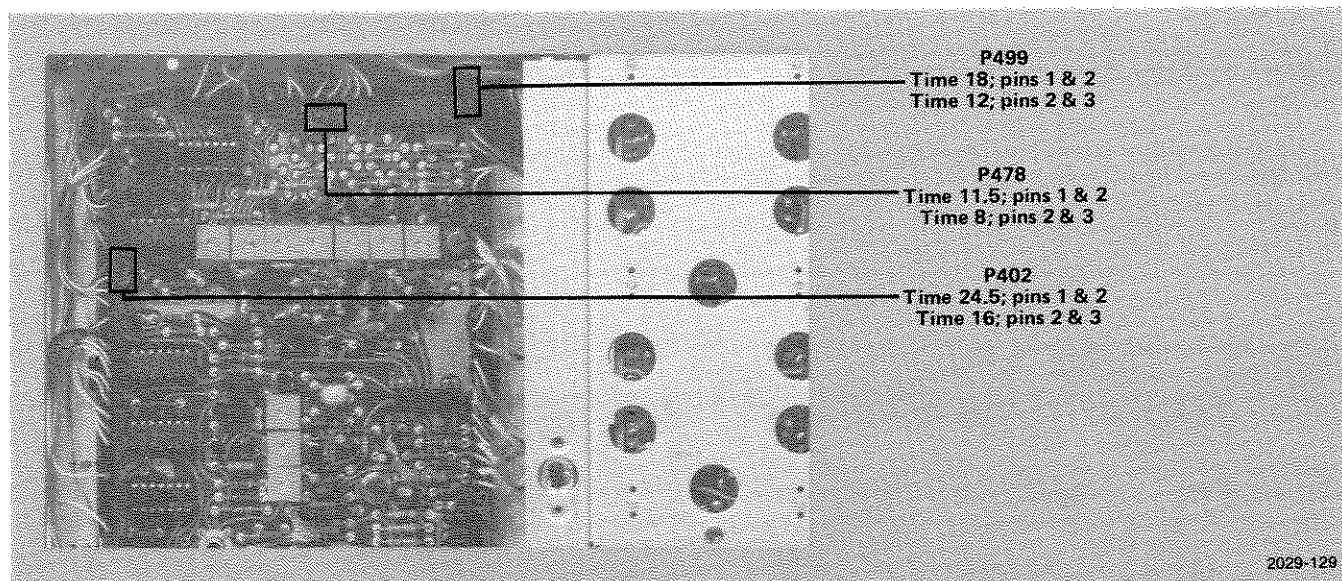

Fig. 1-27. 149A Subcarrier and Sync Out circuit board location of Modulated Pedestal selector plugs.
Proceed as follows: (1) Change the connector on pins 1 and 2 of P402 (see Fig. 1-27) to pins 2 and 3; (2) Change the connector on pins 1 and 2 of P478 to pins 2 and 3; and (3) Change the connector on pins 1 and 2 of P499 to pins 2 and 3.
value of C345, see Fig. 1-27. If less delay is desired, C345 can be replaced with a lower value capacitor with the same voltage rating. A minimum value of about 15  $\mu$ F should be retained in the circuit to avoid relay chatter in the bypass mode, and to avoid switching on a momentary loss of sync.